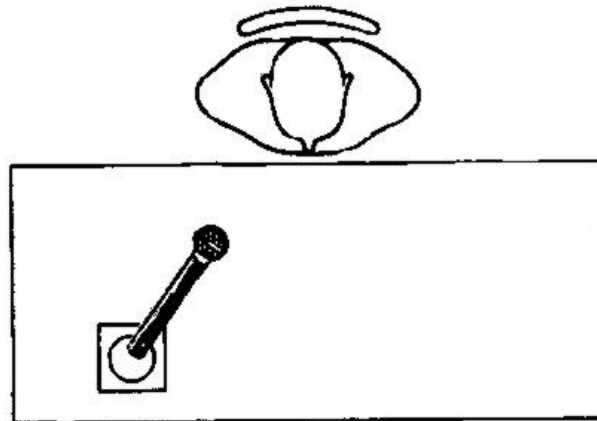

Figure K-4. Desk Microphone Placement
d. There are several types of microphones that may be used for single voice pickup in a studio or in a field production. Normally an unidirectional-type microphone pickup pattern. Figure K-4 shows a typical desk mic placement. Figure K-5 is a lavalier clip-on style; it can also be handheld or used with a neck cord. Figure K-6 is a field interview, handheld mic.